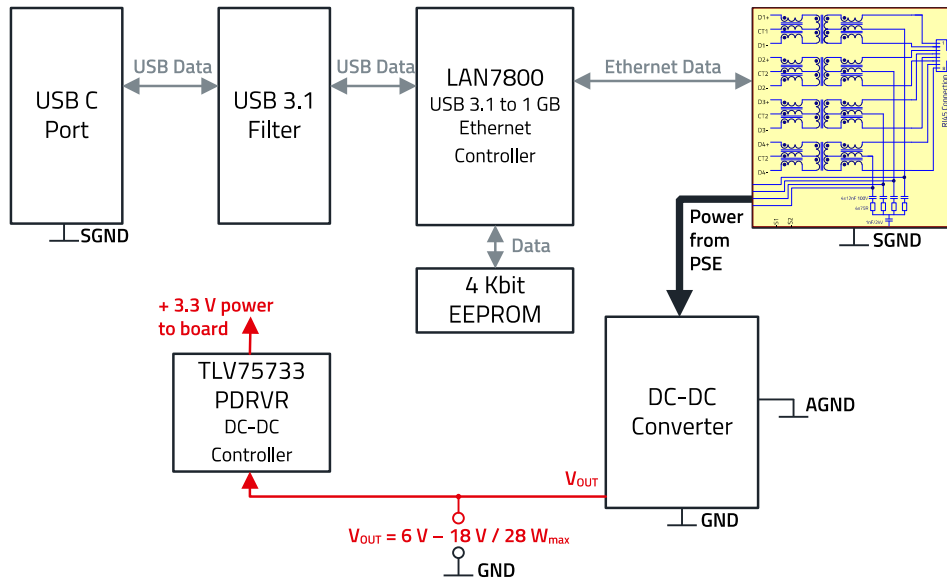

Figure 10: Block diagram of the GB-Ethernet-USB adapter with Power over Ethernet (PoE) circuit diagram, current flow in the adapter
The Gigabit Ethernet controller LAN7800 USB 3.1 connects the USB interface with the Ethernet interface, as a "bridge" (Figure 10). So the signal adaptation and decoupling have to be realized for switching the interfaces. The power supply must be decoupled via the Ethernet cable and regulated with a DC/DC controller. The DC/DC controller also handles the detection and classification of the power device (PD). On the USB side, a linear DC/DC controller (low drop regulator, LDO) generates the 3.3 V supply voltage required for the LAN7800 and the EEPROM. The LAN7800 requires an additional 4 kbit EEPROM for the firmware.